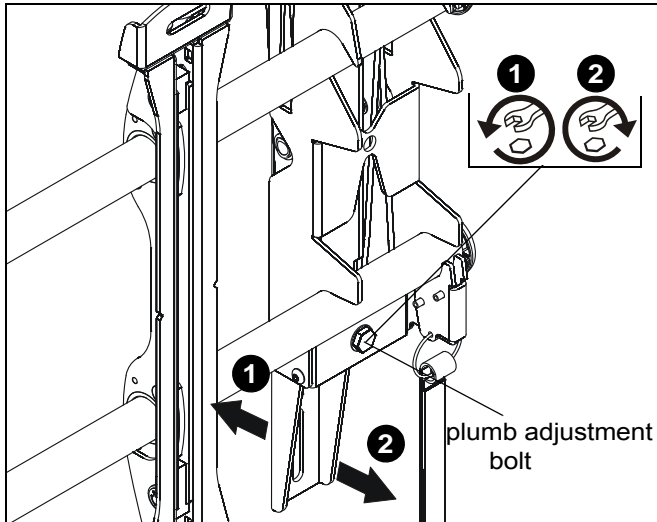

Figure 13
1. Using the provided 1/2" wrench (X), turn plumb adjustment bolt to the left to adjust screen away from the wall. (See Figure 13)
2. Using the provided 1/2" wrench (X), turn plumb adjustment bolt to the right to adjust screen toward the wall. (See Figure 13)